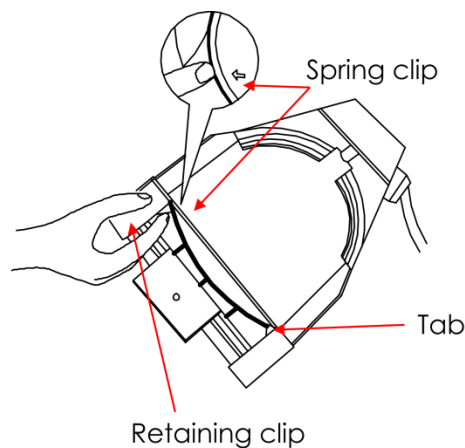

Fig. 07
- 01) Place the fixture with the front facing you. Tilt the fixture slightly (fig. 07).
- 04) Press the spring clip to release the lens (fig. 07).